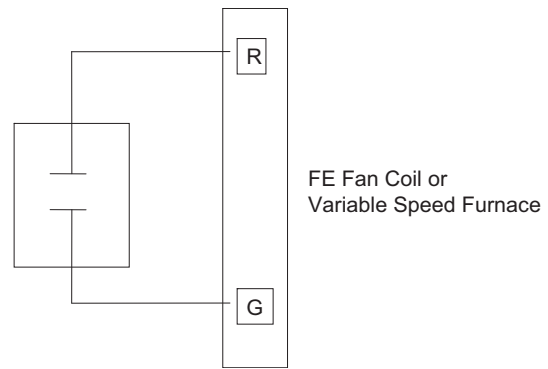

Fig. 23 - G Input Wiring for Blower Operation
- FAN - turns on fan to selected fan speed when G terminal is energized. See Fig. 23. This setting is used in conjunction with fresh air supply products (e.g. fresh air/make-up air dampers).
- FAN - turns on fan to selected fan speed when G terminal is energized. See Fig. 23. This setting is used in conjunction with fresh air supply products (e.g. fresh air make-up air dampers).